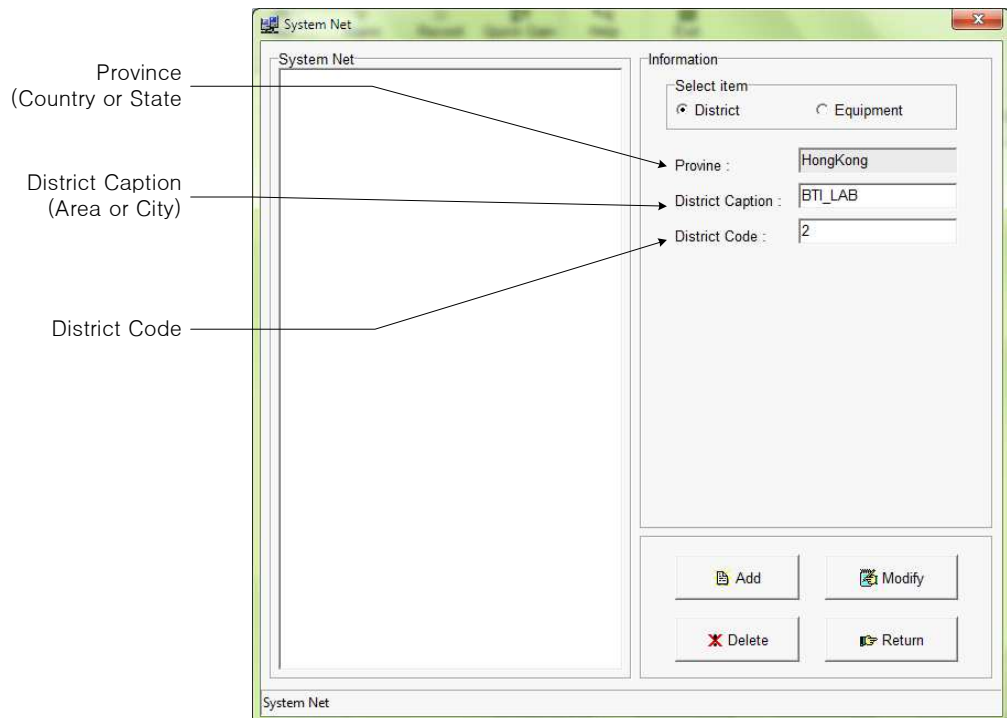
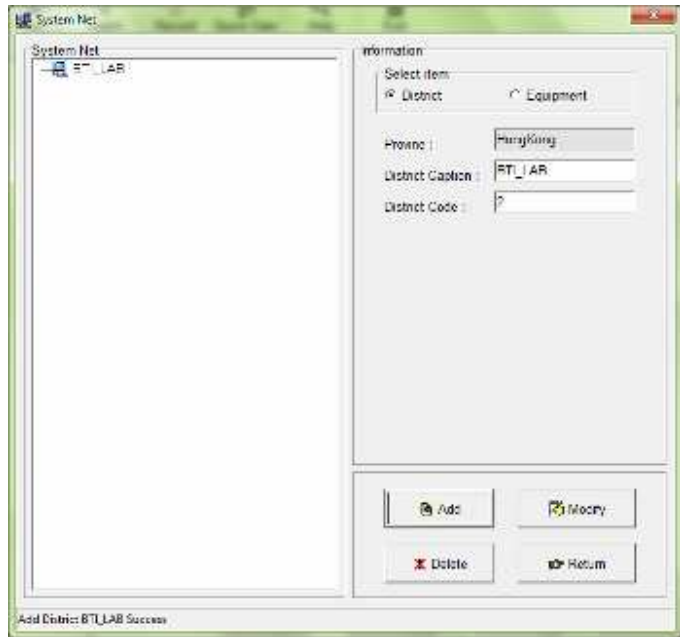

Figure 3-6. Define the District
Figure 3-7. Reult window after Defining District
5. Define the District for highest level of system configuration as shown in Figure 3-6. User can define each section without rules. After typing the information, click the **Add** button right-bottom of the window. Figure 3-7 shows the result after defining the district